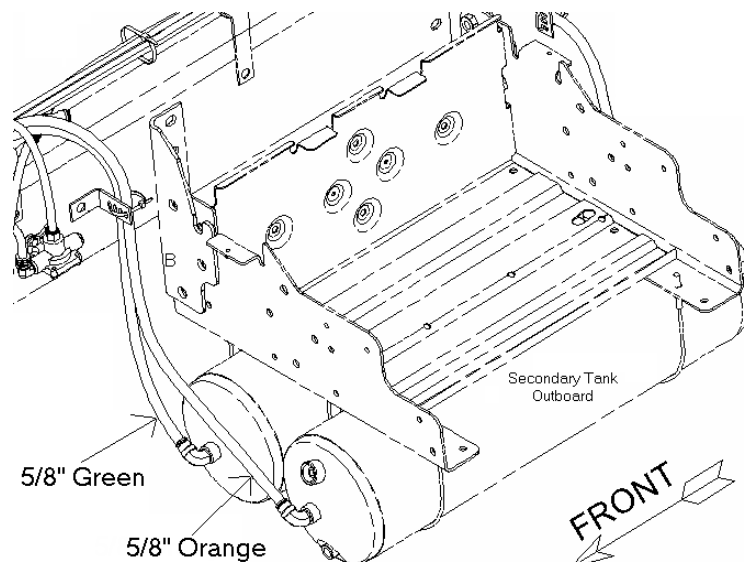

Figure 1
1. Verify green and orange hoses are plumbed as indicated in Figure 1.
2. If tanks are plumbed according to Figure 1, then brake system is plumbed properly. **NO** hose replacement is required and the Recall is complete.
3. If tanks are *not* plumbed according to Figure 1 and are reversed, then continue on to **Hose Replacement Procedure**.
3. Disconnect 5/8" green tubing from outboard (secondary) air tank and connect to inboard (primary) air tank. Trim hose as necessary and ensure the hose is clean at the new sealing area and is not kinked when installed. See **Figure 1**.
8. Connect to secondary or outboard air tank. See **Figure 1**.